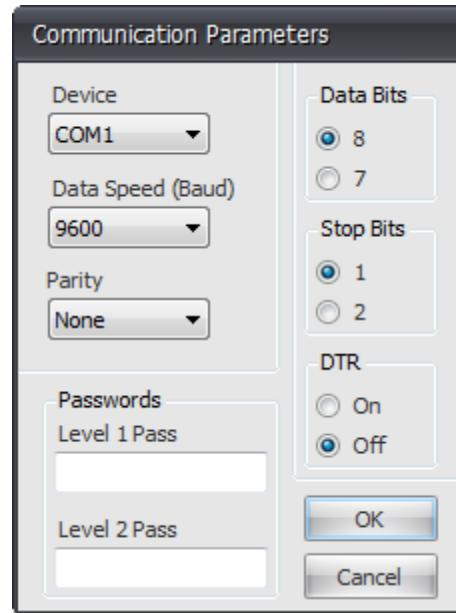

Figure 7.38 Communication Parameters
Step 13. After clicking the **OK** button, the screen with communication parameters (*Figure 7.38*) displays. Select the correct values, and click **OK**.